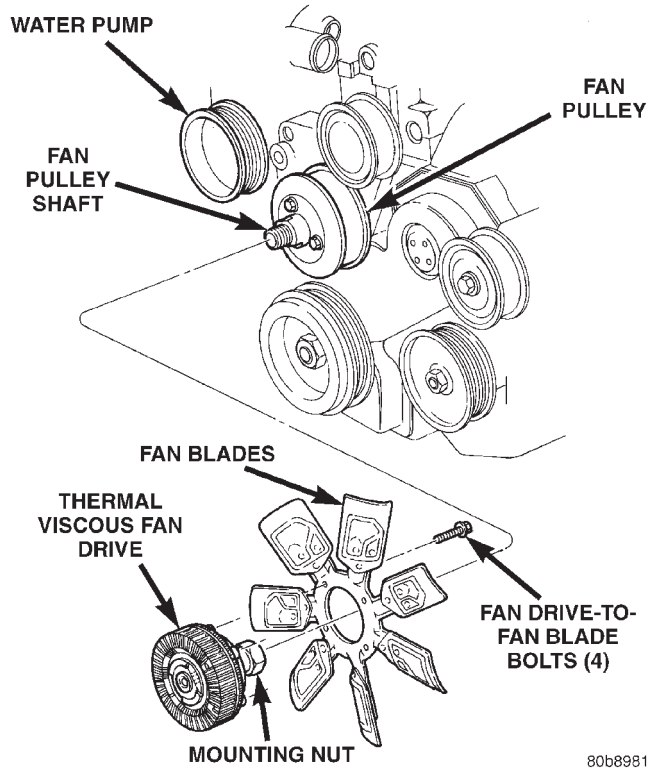

Fig. 22 Thermal Viscous Fan Drive and Blade Assembly
(1) Disconnect negative battery cable from battery.
(2) The thermal viscous fan drive/fan blade assembly is attached (threaded) to the fan pulley shaft (Fig. 22). Remove fan blade/viscous fan drive assembly from fan pulley by turning mounting nut counter-clockwise as viewed from front. Threads on viscous fan drive are **RIGHT HAND**. Snap-On® 36 MM Fan Wrenches (number SP346) can be used to turn the mounting nut and to hold the fan pulley from rotating.
(3) Do not attempt to remove fan/viscous fan drive assembly from vehicle at this time.
(4) Do not unbolt fan blade assembly from viscous fan drive at this time.
(5) Remove the fan shroud mounting bolts.
(6) Remove the fan shroud and fan blade/viscous fan drive assembly as a complete unit from vehicle.
(7) After removing fan blade/viscous fan drive assembly, **do not** place viscous fan drive in horizontal position. If stored horizontally, silicone fluid in the viscous fan drive could drain into its bearing assembly and contaminate lubricant.
(8) Remove four bolts securing fan blade assembly to viscous fan drive (Fig. 22).
(1) Install fan blade assembly to viscous fan drive. Tighten bolts (Fig. 22) to 23 N·m (200 in. lbs.) torque.
(2) Position fan shroud and fan blade/viscous fan drive assembly to vehicle as a complete unit.
- (3) Install and tighten fan shroud bolts to 3 N·m (31 in. lbs.) torque.
- (4) Install fan blade/viscous fan drive assembly to fan pulley shaft (Fig. 22).
- (5) Connect the negative battery cable.